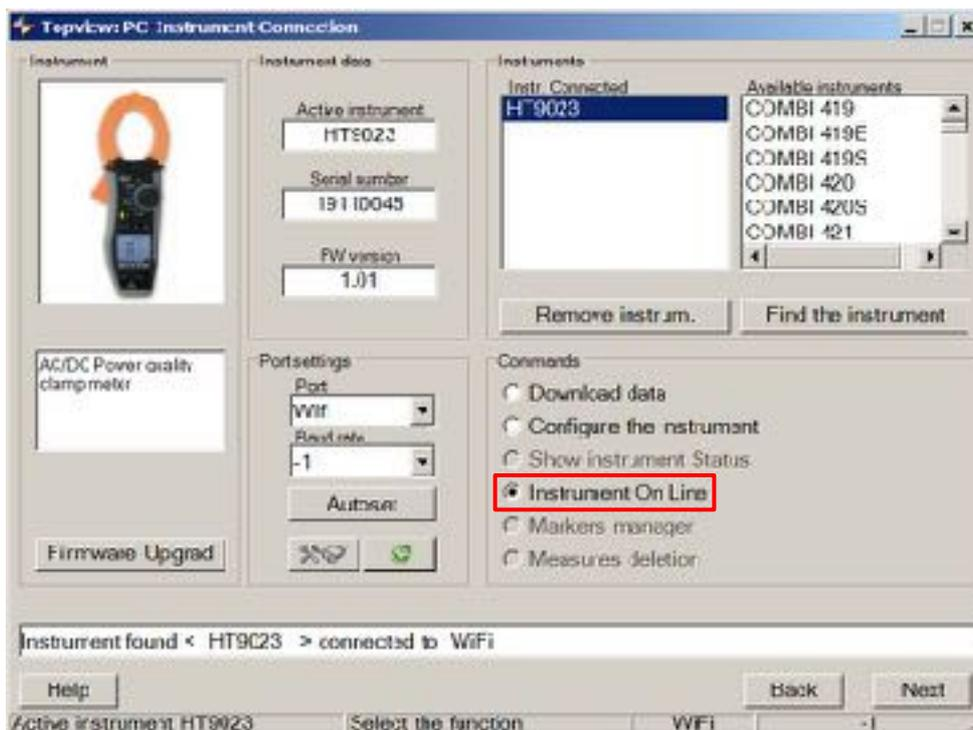

Fig. 19:Real-time connection of the instrument
7. Open the **"PC-Instrument connection"** section and select the "Instrument on line" option as shown in the following Fig. 19